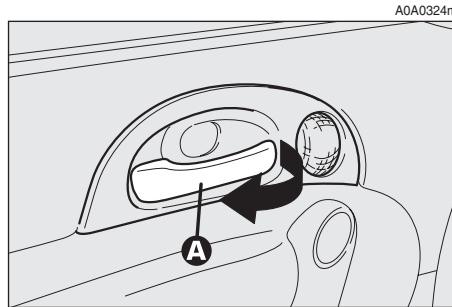

fig. 11
- To open the door, pull the handle (**A-fig. 11**).